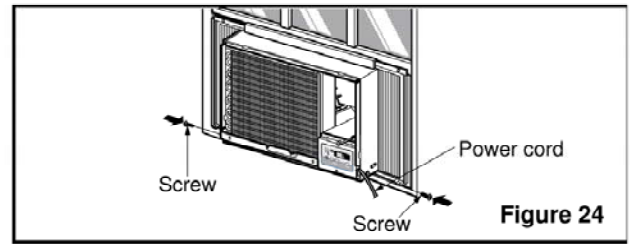

Figure 24
10. Slide the unit into the cabinet.(See Fig. 24)